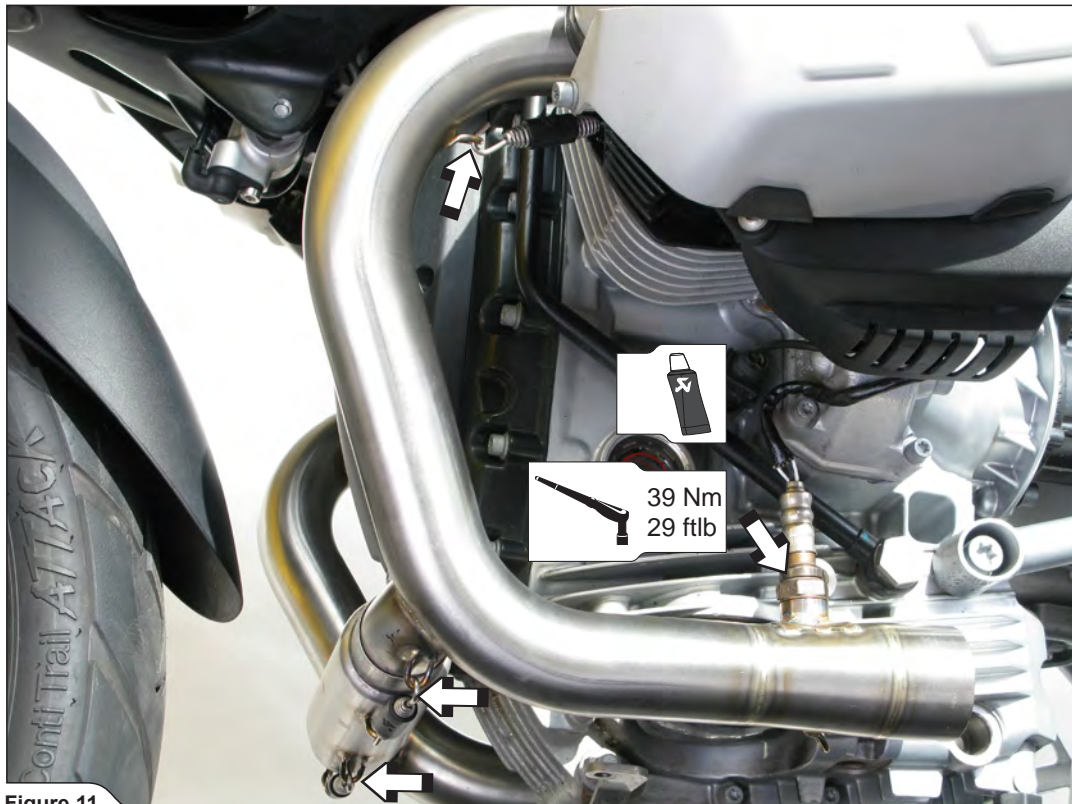

Figure 11
4. Insert the header tubes with crossover tube properly and attach the springs; tighten the lambda sensors (**Figure 11**).